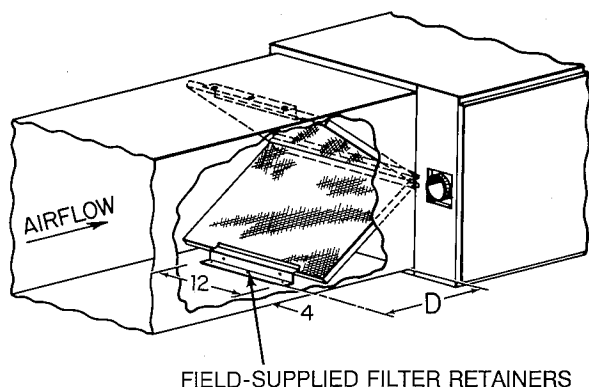
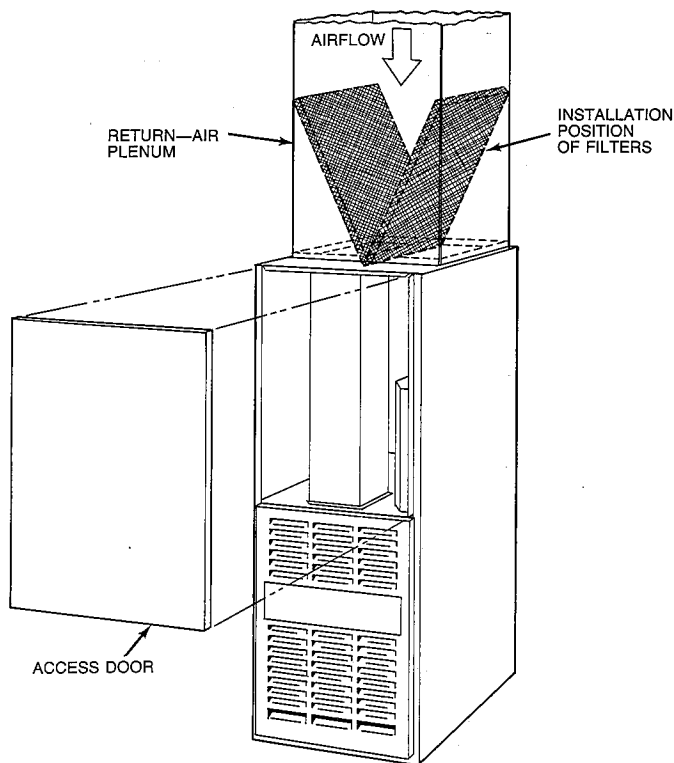

Figure 8—Horizontal Filter Arrangement A82173
Figure 9—Downflow Filter Arrangement
- a. Install field-supplied filter retainers as indicated in Figure 8 and Table IV before connecting return-air duct to furnace.
The two factory-supplied filters are shipped in the blower compartment. After the return-air duct has been connected to the furnace, install the filters in a V-formation inside the return-air plenum. See Figure 8 and Table IV for horizontal applications. Horizontal filter retainers must be field-supplied. See Figure 9 for downflow applications.